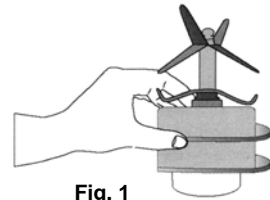

Fig. 1
**Caution - Blades are sharp. Use extreme caution when handling the blade assembly, always hold it by the base of the blade assembly. (Fig. 1) NEVER HANDLE BY BLADES, VERY SHARP. Do not immerse the power base in water or any other liquid.**
**Caution - Blades are sharp. Use extreme caution when handling the blade assembly, always hold it by the base of the blade assembly. (Fig. 1) Do not immerse the power base in water or any other liquid.**